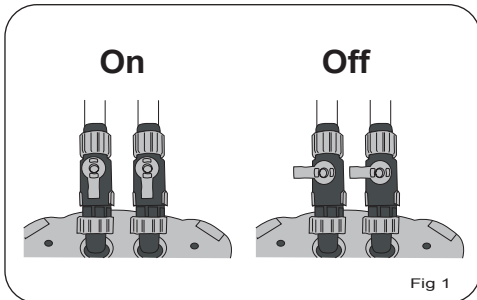

Fig 1
2. Open the filter unit. To do this release the 4 clips located on the corners of the filter. Fig 1
1. Open both of the brown accessory boxes and remove all components from there plastic bags. You will find a set of taps and two pieces of hose. Screw the collar on the taps all the way in. (Clockwise) Fig 1
NOTE: Your aquarium must be filled with water to prime your filter. Ensure both taps are in the on position by shifting the plastic lever from the OFF (Horizontal position) to the ON (Vertical position). **NOTE:** Once the filter is running, double check the fittings and seals for water tightness. Fig 1
2. Turn both of the taps to the off position. Fig 1